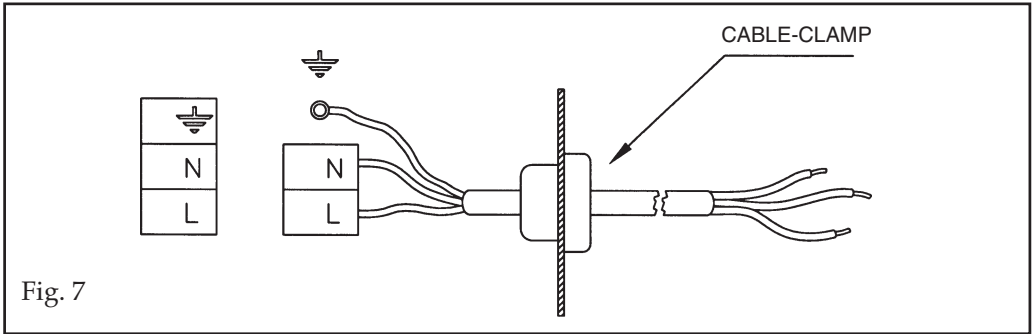

Fig. 7
(Fig. 7) Prior to carrying out the electrical connection, please ensure that:
- replace the injectors (Fig. 7) with the corresponding type of gas to be used (see table "Uses characteristics").